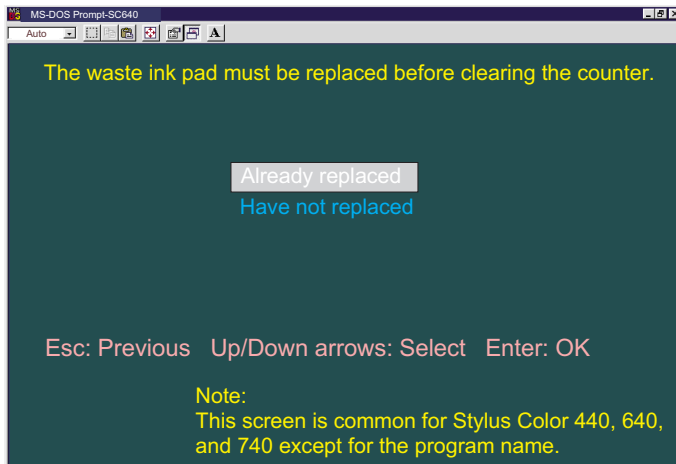

Figure 5-17. Current Protection Counter Clear Screen
- If you select **Have not replaced**, the current screen automatically returns to the previous screen (Figure 5-17).